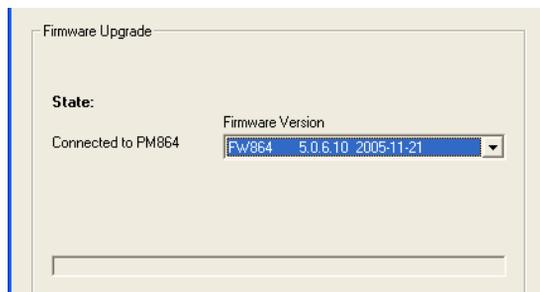

Figure 43. A Firmware version displayed in the text field.
- Click **Connect** and then press the **Init** push-button on the Controller until the **Run LED** starts to blink. Wait about a minute until a message appears. If connection was successful, a confirmation text will occur in the Firmware Version text field (Figure 43).